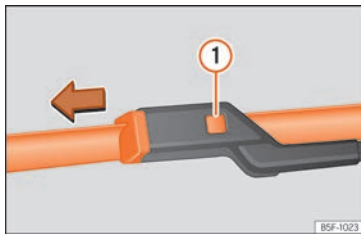

Fig. 41 Changing the windscreen wiper blades
- Press and hold release button »» Fig. 41 ❶ and pull gently on the wiper blade in the direction of the arrow.